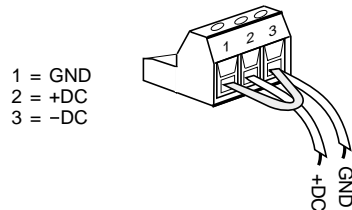

Figure 2 3-position terminal strip showing DC output connected for a negative ground scheme.
3.7 SELECTING THE DESIRED DC OUTPUT SCHEME As mentioned previously, the DC output is floating (isolated) in respect to earth ground. The DC output can be connected to the equipment to be powered in this manner, or it can be referenced to earth ground. A negative ground scheme, shown in Figure 2, is created by strapping pin 1 (ground) to pin 3 (-DC) and using this combination as the ground connection to the load. +12Vdc is then connected from pin 2 (+DC) to the load. Note that pin 1 is internally connected to the Model 711 chassis and the safety ground wire of the mains power cord.